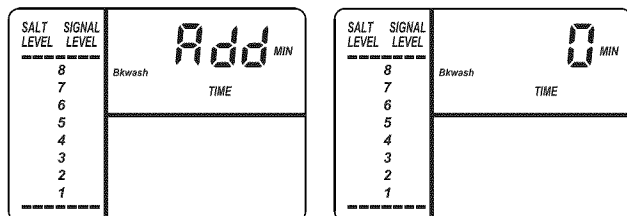

Figure 33
7. Press SELECT again to display the alternating screens shown in Figure 33.